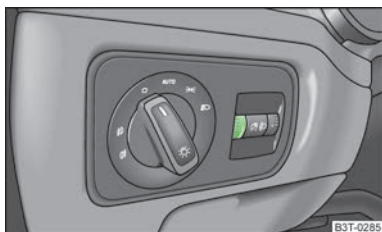

Fig. 33
- Turn the control dial » Fig. 33 to the desired intensity of the instrument lighting.